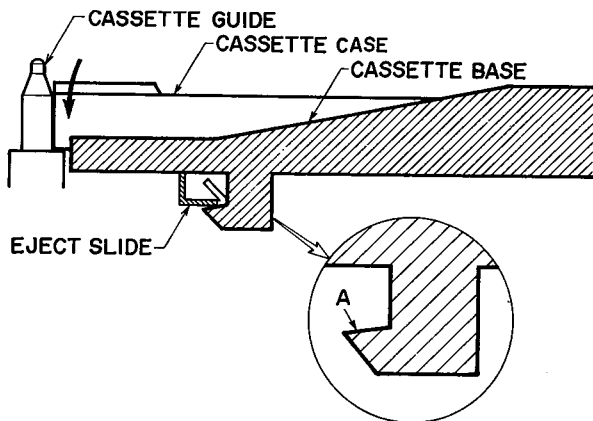

Fig. 2
1. EJECT, SLIDE, LOCK ADJUSTMENT (Refer to Fig. 2)